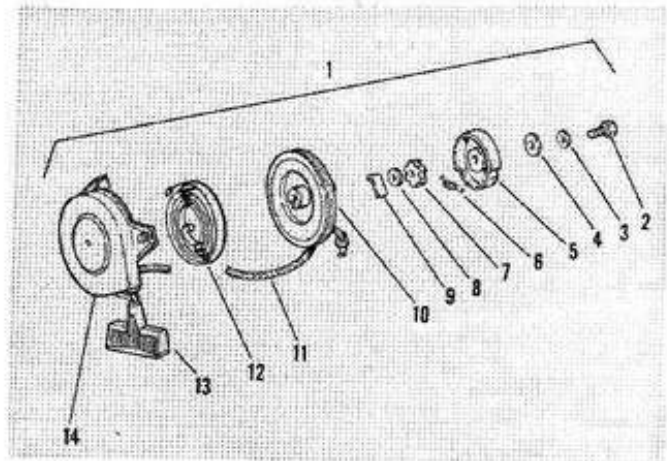

Figure 109. Starter Reassembly.
- e. Refer to Figure 109 and reassemble the starter in the reverse order of removal.